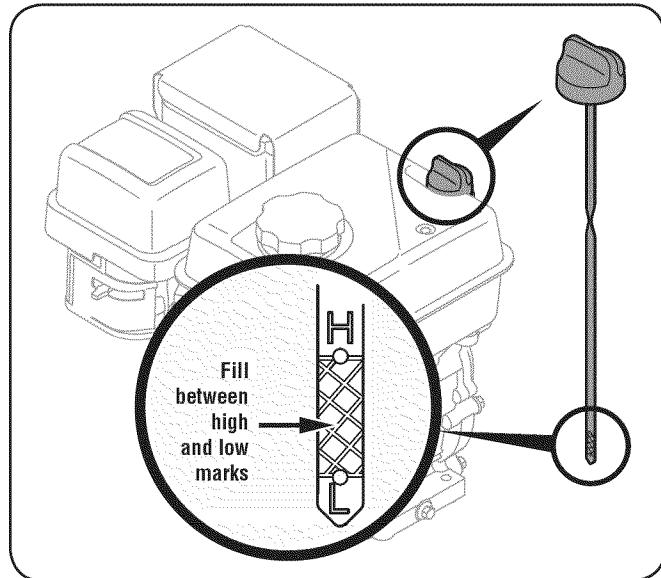

Figure 3-3
- Keep oil level between "H" and "L" marks on dipstick. See Fig. 3-3.
1. Remove the oil filler cap/dipstick and wipe the dipstick clean. See Fig. 3-3.
3. Remove the oil filler cap/dipstick. If the level is low, slowly add oil until oil level registers between high (H) and low (L), Fig. 3-3.